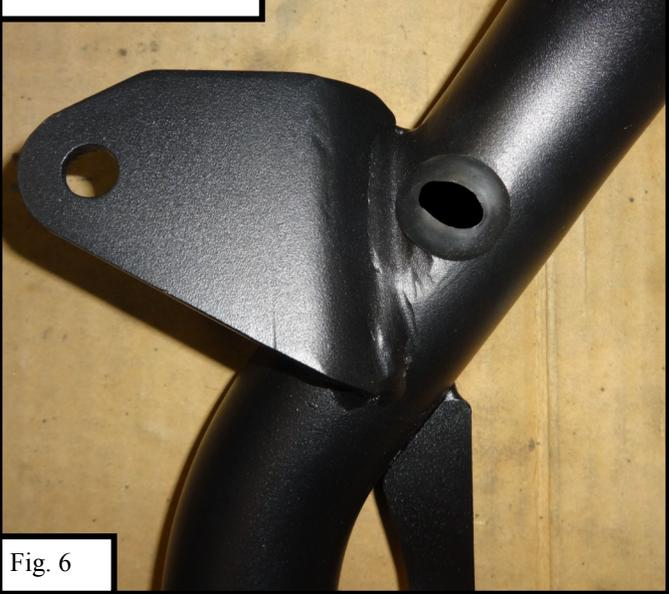
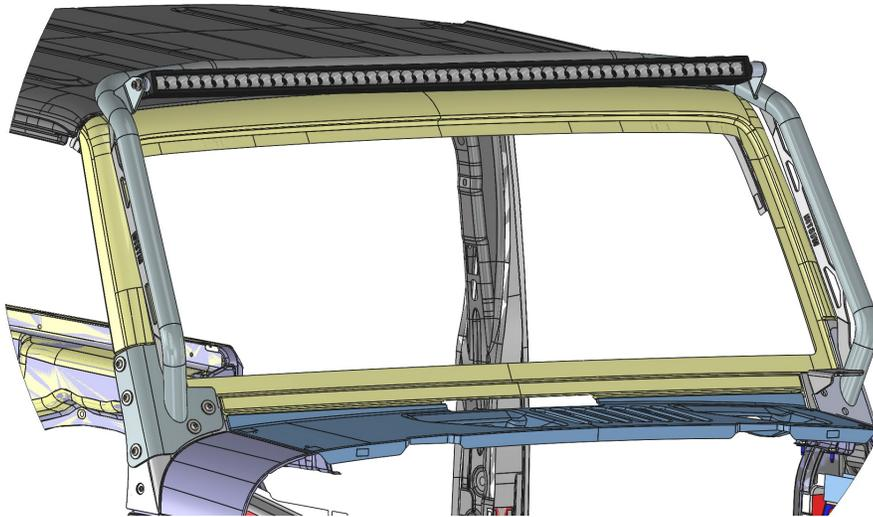

Fig. 6
Fig. 8
7. Wiring for the LED light bar can be run through either of the hoop side assemblies. If wiring is run through the passenger hoop side assembly, use a rubber grommet on the hole near the hoop base assembly (**FIG 5**) and also at the top of the tubing next to the light bar mounting tab (**FIG 6**). On the opposite hoop assembly, cover both holes previously mentioned with the (2) rubber hole plugs provided.
8. **NOTE: LED Light bar sold separately.** To install the light bar, carefully lift it and position it between the two hoop assembly upper pillars. Align the holes on both ends of the light bar with the upper pillar mount tabs on the hoop assemblies. **NOTE: Some light bars require the use of the supplied spacers and the use of the (2) supplied M8-1.25X25 hex head cap screws, to fully span the distance between the brackets**
10. Refer to **Figure 8** for a picture showing the complete assembly of the overhead LED hoop light mount kit.